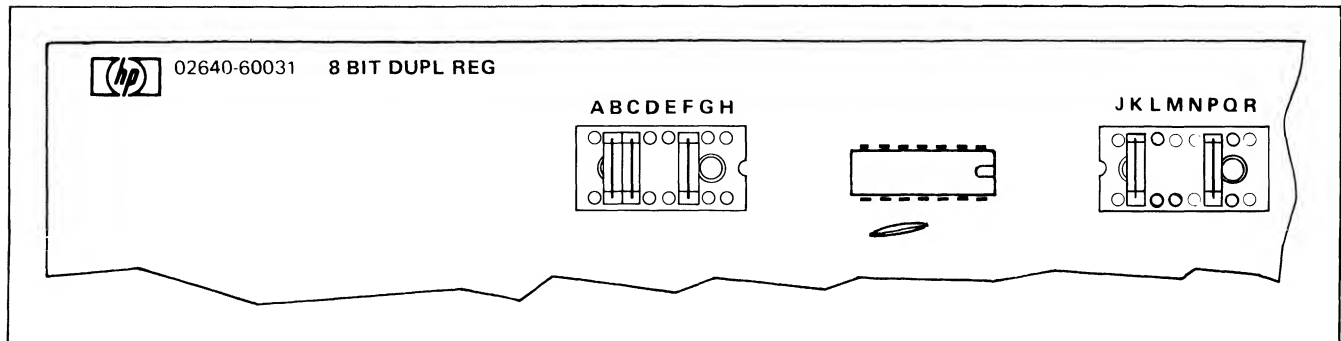

Figure 7-12. Terminal Duplex Register PCA Jumper Configuration
2. ( ) Configure jumpers in Terminal Duplex Register PCA jumper sockets as shown in figure 7-12.